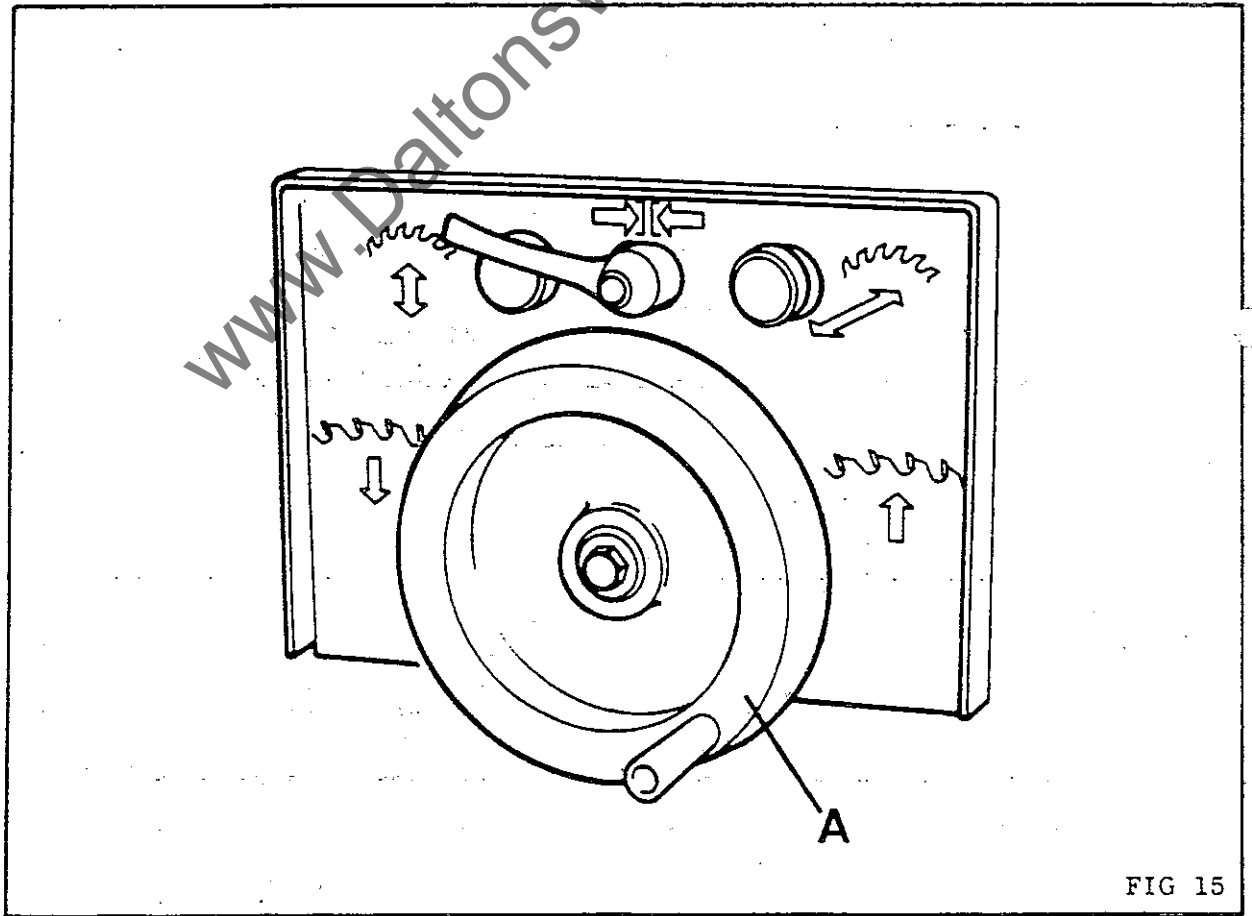

FIG 15
2. Turn handwheel "A" in FIG 15, raising main saw motor to uppermost position
5. Lower main saw motor by handwheel "A" in FIG 15 until motor rests firmly on belt tension release bracket. Continue turning handwheel until motor drive belt can be easily removed.
7. Raise motor by handwheel "A" in FIG 15 until belt tension supports motor.